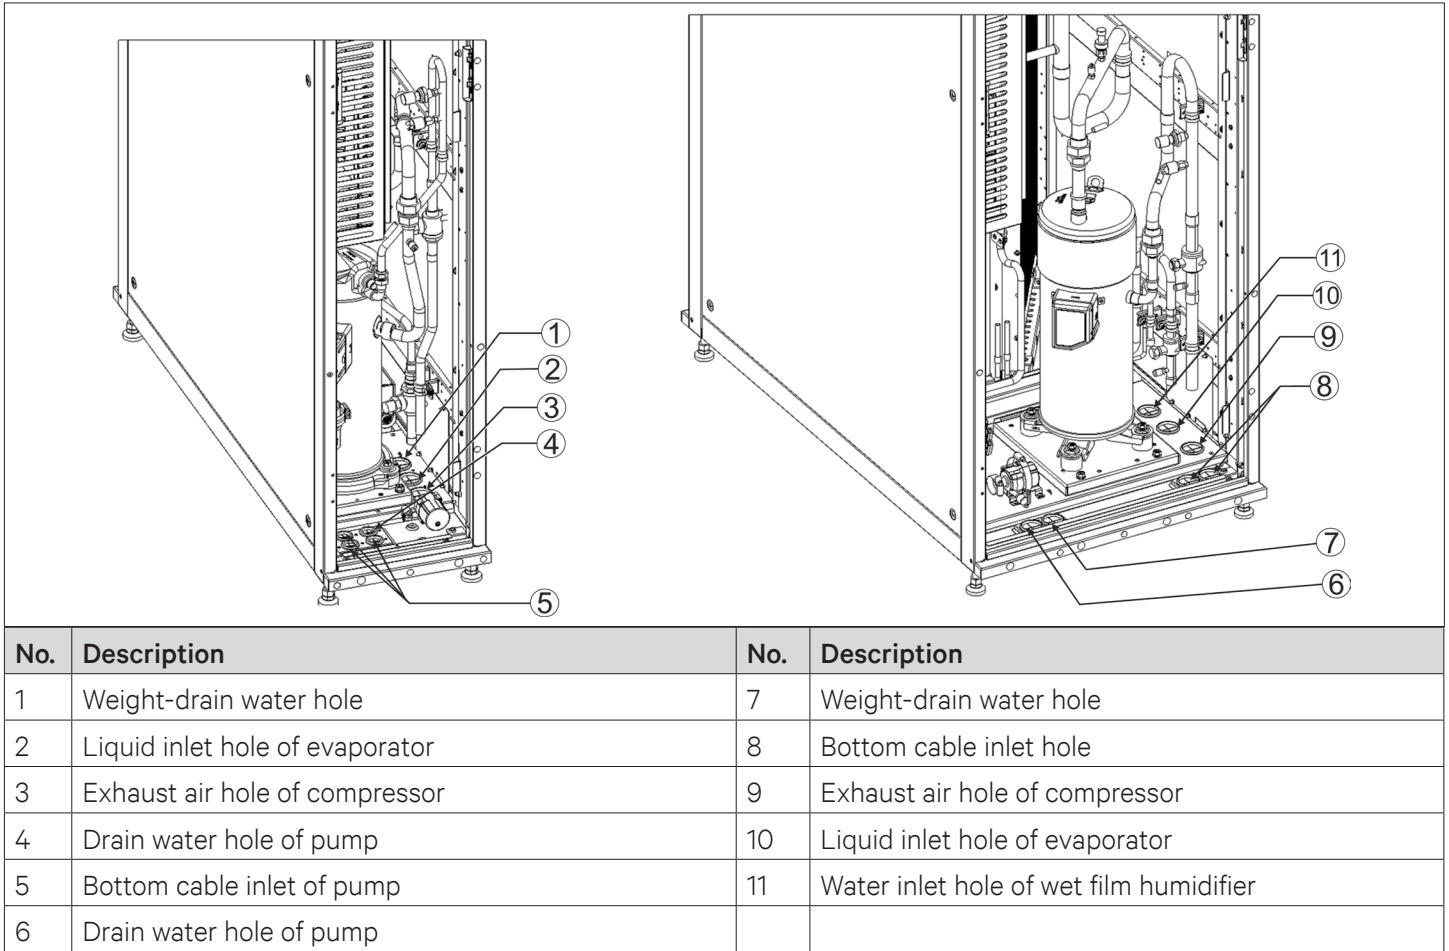

Figure 3-13 Connection of the Drain Piping
3. This prevents the backflow of the water in the connecting pipes to the water pan. User can use a clamp from the accessories box to fix the drain pipe to the drain connector, and the fixing torque is 15 kg.cm, refer Figure 3-13 for better understanding.